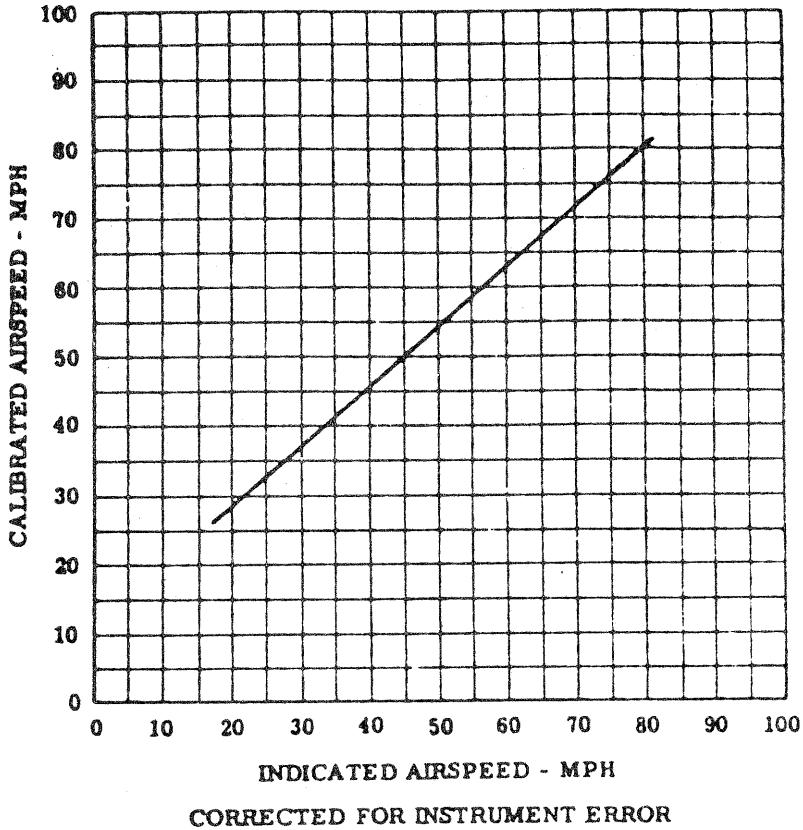

Figure 3-1. Airspeed Calibration Curve
1. Indicated airspeed (IAS) corrected for position and instrument error equals calibrated airspeed (CAS). See Figure 3-1, Airspeed Calibration Curve.